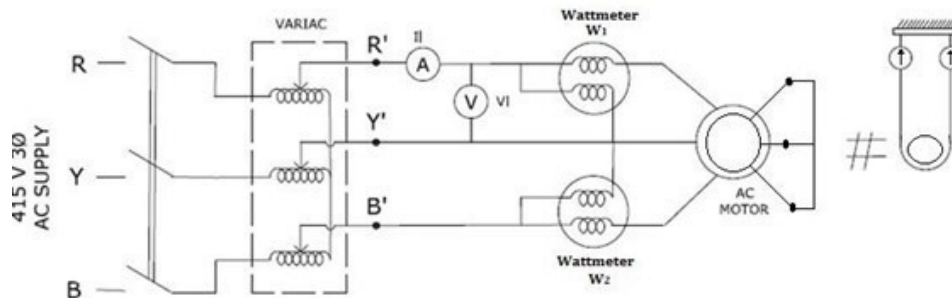

Figure 1
No-Load (NL) Test In this test the motor is run on no-load at rated voltage and frequency. The applied voltage and current and power input to motor are measured by the metering as per Fig. 1. Lets the meter readings be